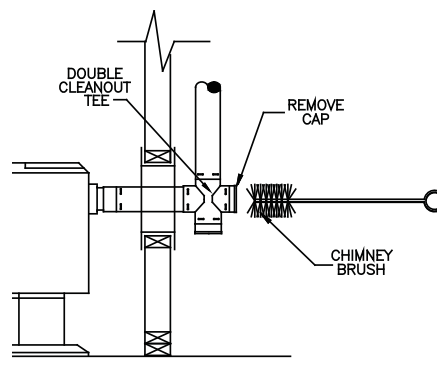

Figure 14
**C.** Connect a Pipe Adapter and Pipe Section together then seal connection to rear exhaust outlet. Attach a Single Tee with Clean out adapter or a Double Tee with Clean-Out Adapter, and proceed attaching Pipe Sections up the wall. Installing a Double Tee with Cleanout Adapter on the exterior of wall, allows brushing of the Horizontal Vent run through to appliance (**Figure 14**).